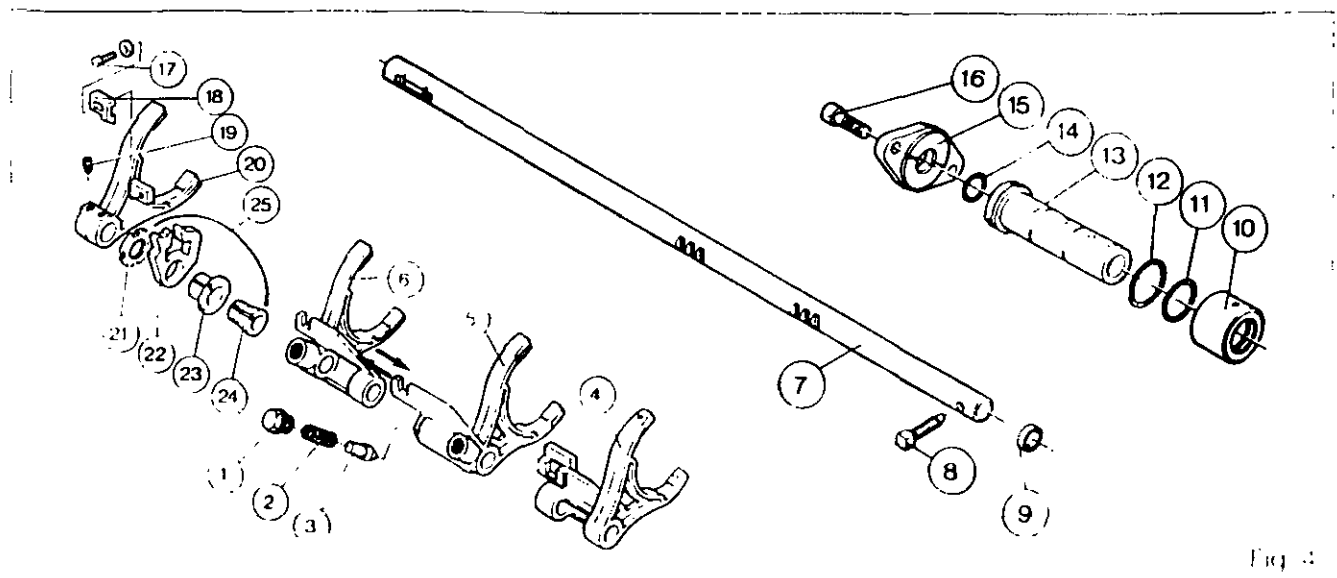

Fig. 4
4. Remove plugs (1), springs (2) and locking plungers (3) from forks (5) and (6) (Fig.4).